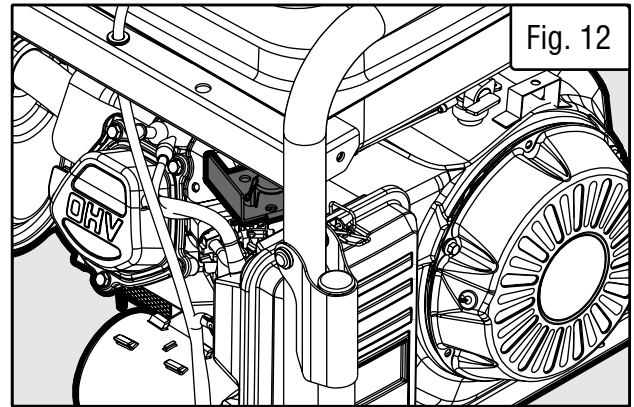

Fig. 12
2. Move choke lever (Fig. 12) to the CLOSE / START position.